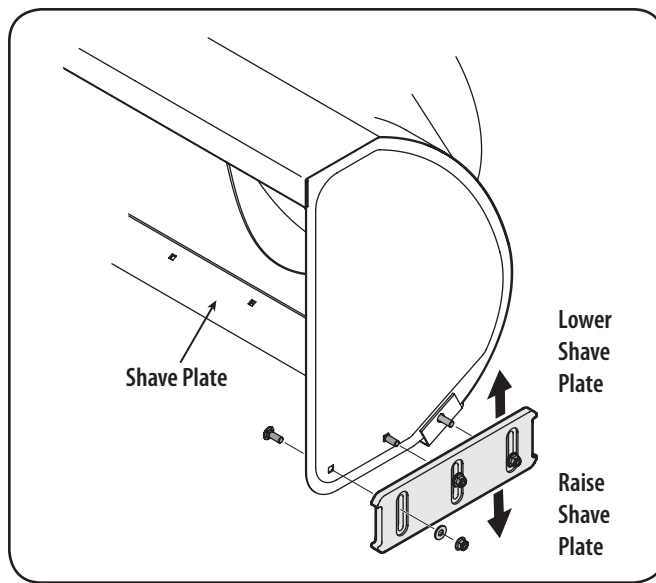

Figure 3-8
1. Adjust skid shoes by loosening the six (three on each side) hex nuts, washers, and carriage bolts securing the skid shoes to the auger housing. Refer to Figure 3-8.